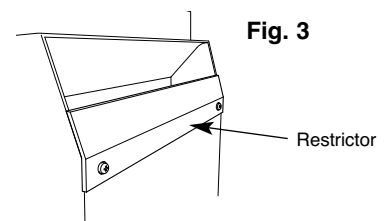

Fig. 3
- c) **Pre-cast Flue** conforming to BS 1289 Part 1 (It may be necessary to use a surround with a deeper rebate than usual to accommodate a flush fit with certain starter blocks. Check the appliance dimensions against individual applications. Pre-cast flue block systems should comply with BS EN 1806 (clay/ceramic) or BS EN 1858 (concrete). The flue area measurement is taken on the rectangular section above the gather block (length x depth). The cross sectional area on post 1986 systems should not be less than 16500mm sq with a minimum internal dimension 90mm. Gas operatives need to be aware that before 1986 the cross sectional area specification was 1300mm sq with the minimum dimension of 63mm. In the case of the smaller flue the outlet restrictor plate **MUST** be fitted (see Fig. 3).